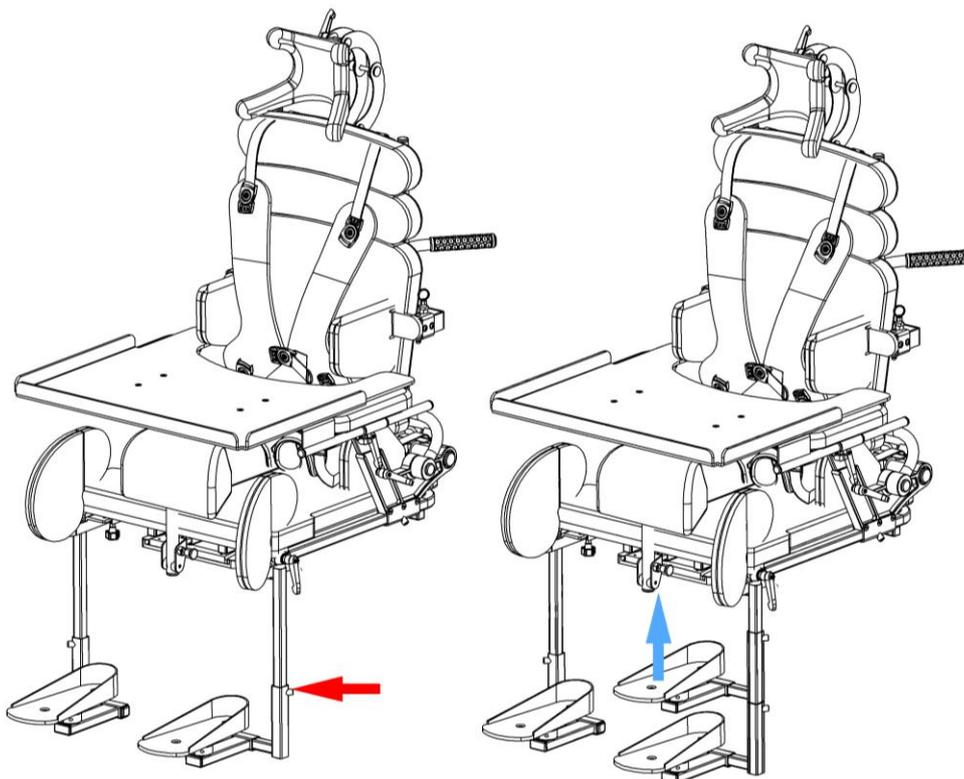

Fig. 42
Loosen up bolt marked in Fig. 42 with the red arrow with Allen key 4mm. Set the required height of the foot supports, finish by tightening the bolt.